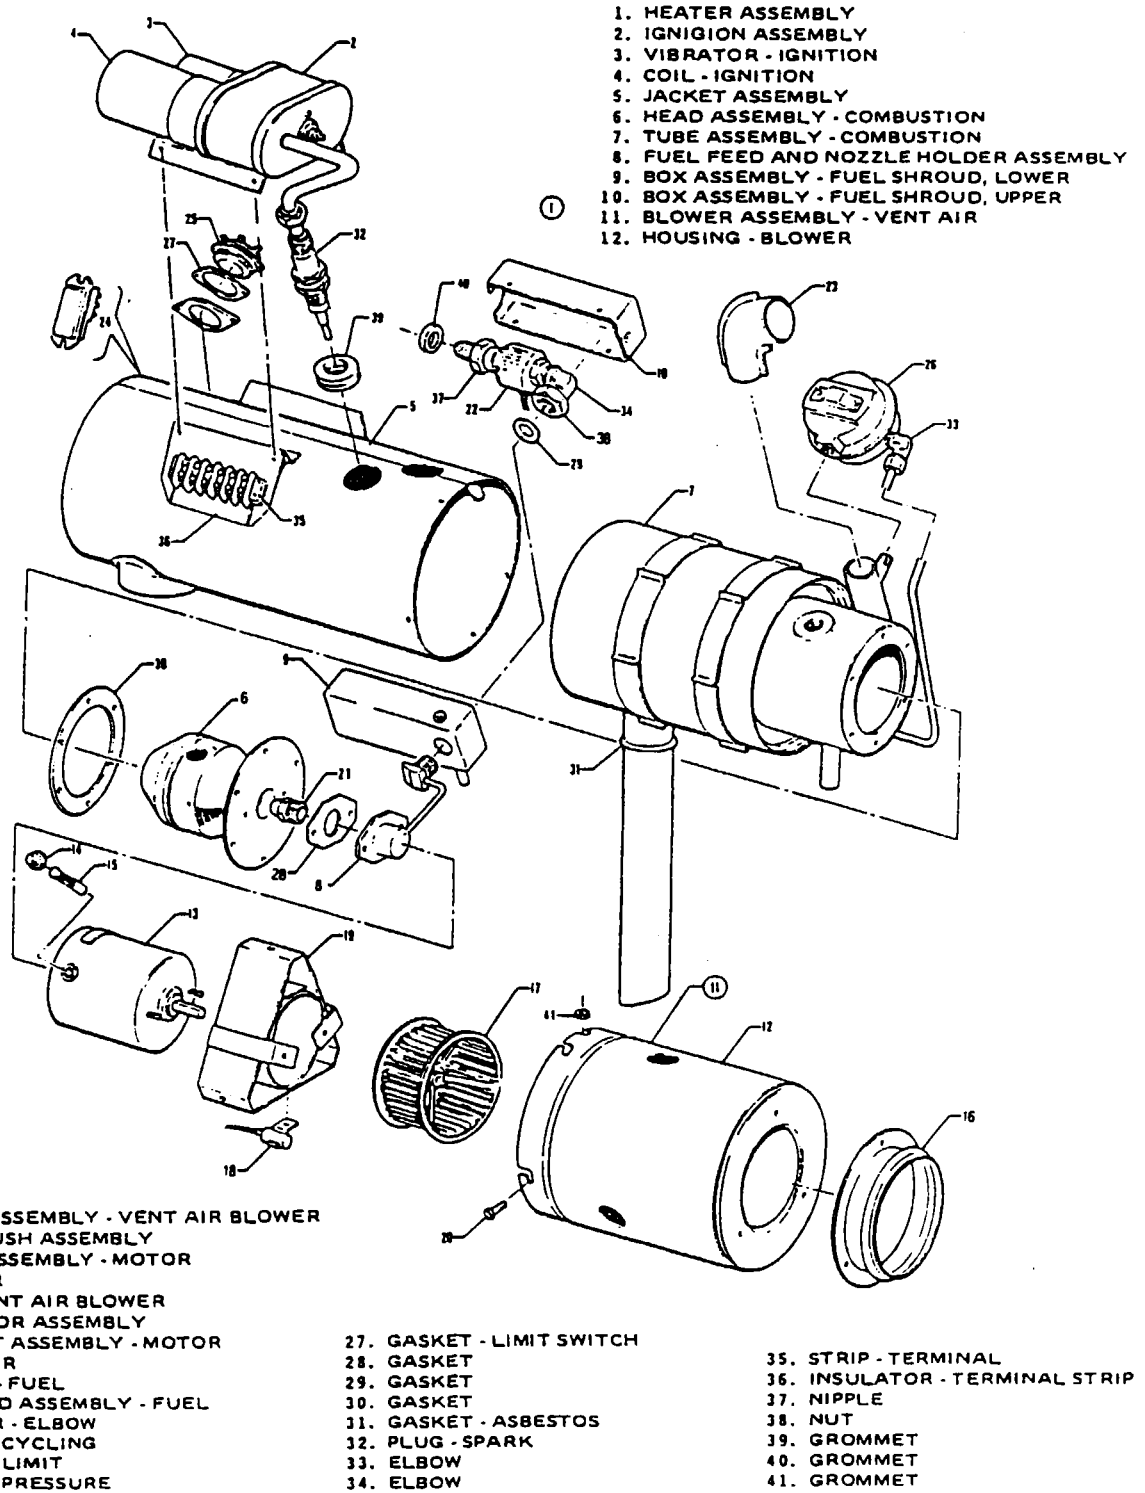

Figure 13-18. Exploded View of Heater Assembly (30,000 BTU)
e. Spray test the nozzle (21, Figure 13-18 or 13-19) as follows:
13-65. REASSEMBLY (30,000 BTU). (Refer to Figure 13-18.)
- l. Install the gasket (30) and combustion head (6) in the combustion tube (7) and secure with the screws and washers.
- m. Insert the fitting on end of nozzle fuel tube through the opening in jacket (5) and attach the nozzle holder to the combustion head assembly (6) with the two screws and lock washers. It may be necessary to place a slight bend in the shrouded fuel tube to permit alignment of screw holes. Be sure to use a new gasket (28).
- n. Using a new spark plug gasket, install the spark plug (32) and tighten to a torque of 28 foot-pounds. Install the grommet (39) in the jacket around the spark plug.
- o. Install the ignition assembly (2) on the jacket assembly (5) with the four screws and lock washers. Connect the high voltage lead to the spark plug and tighten it to 20 foot-pounds.
- p. Attach the overheat limit switch (25) and spacer gaskets (27) to the jacket assembly (5) with the two screws, lock washers and flat washers. Tighten the screws securely.
- q. Attach the cycling switch (24) to the jacket assembly (5) with the two screws, lock washers and flat washers.
- r. Place the terminal strip insulation (36) in position on the jacket (5), followed by the terminal strip (35). Secure both parts by installing the two screws and lock washers. The two screws are located at two diagonal corners of the terminal strip.
- s. Center the fuel fitting in jacket opening. Position the fuel fitting shroud gasket (29) and washer; then install the nut (38) finger tight. Insert a 3/4 inch open-end wrench inside the jacket and hold the fuel-tube fitting while tightening the nut (38) with a 3/4 inch deep socket. Install the fuel solenoid elbow (34).
- t. Rotate the combustion air switch (26) onto the threaded fitting on the combustion air tube and tighten it firmly.
- u. Connect the tube to the elbow fitting (33) on the combustion air pressure switch (26).
- v. Install the wiring harness and connect all wire leads to their respective terminals. (Refer to the wiring diagram, Figure 13-7.) Place the grommet (41, Figure 13-18) in position in the jacket (5); locate the ventilating air blower (11) at the end of the jacket. Thread the quick-disconnect on the wiring harness through the grommet and connect it to the mating connector on the motor lead.
- w. Place the blower housing in position on the jacket assembly (5) and secure it by installing the four screws (20), if removed at disassembly. This operation is easier if the screws (20) are started into their threads and the blower housing rotated into place, allowing the screws to enter the notched openings in edge of blower housing. Tighten all screws securely.
- x. Install the elbow adapter (23) with the screw.
- y. Install the upper fuel shroud box (10) with the screws. Ascertain that the grommet (40) is installed.